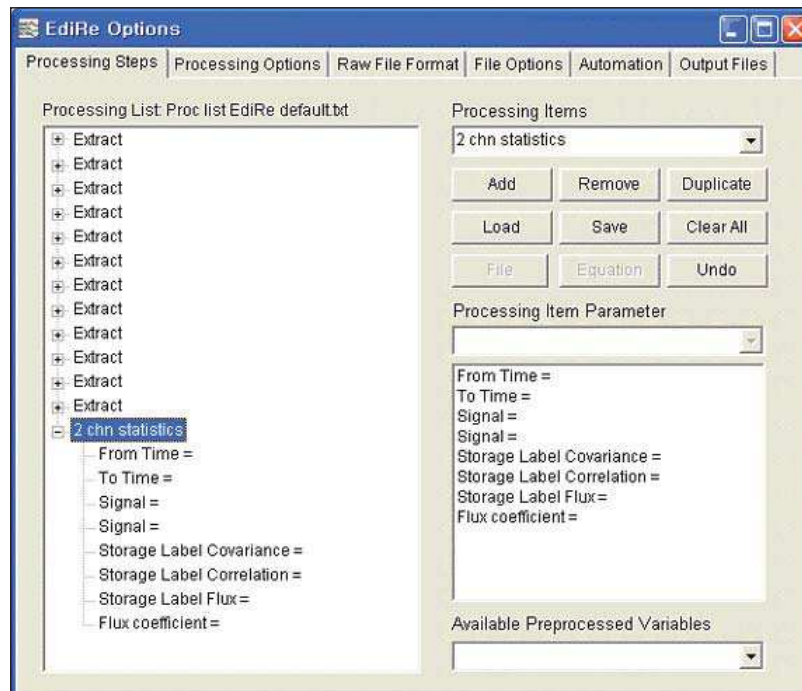

Figure 7: The “+” has been clicked to expand the processing options.
16. After adding it to the list, click on the “+” box next to “2 chn statistics” to expand the options as shown Figure 7.